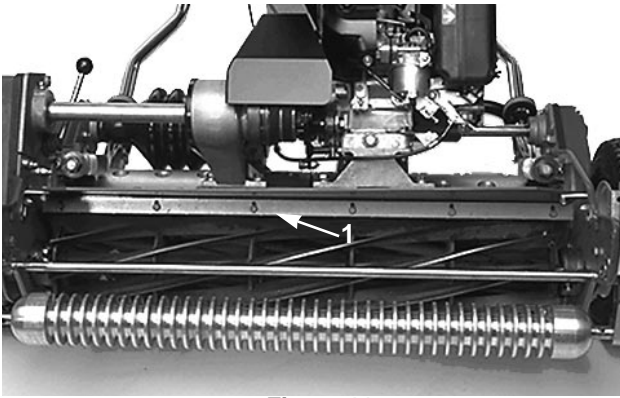

Figure 11
1. Loosen the screws securing the top bar (Fig. 11) to the cutting unit. Insert a .060 inch feeler gauge between the top of the reel and the bar and tighten the screws. Assure the bar and the reel are equal distance apart across the entire reel.